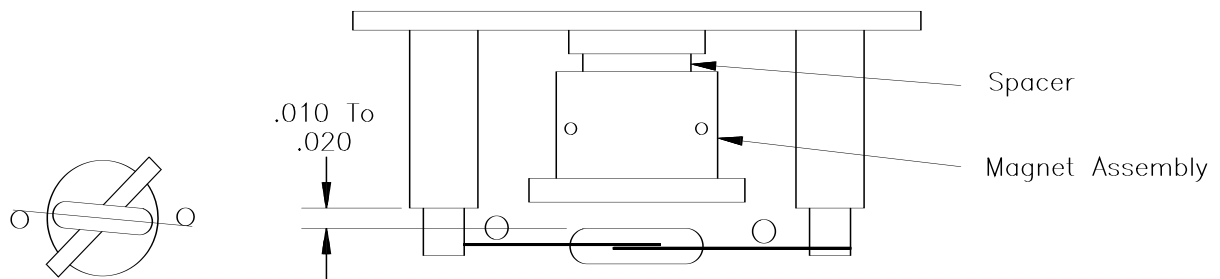

FIGURE C-1. Reed Switch Assembly
- E. Solder the new switch onto the sides of the switch mount terminals (form a loop in the relay leads to obtain proper lead length -- **DO NOT CUT THE RELAY LEADS.**) Measure the distance between the bottom of the rotating magnet and the top of the switch envelope, as shown in FIGURE C-1. The spacing should measure between 0.01 and 0.02 inches.